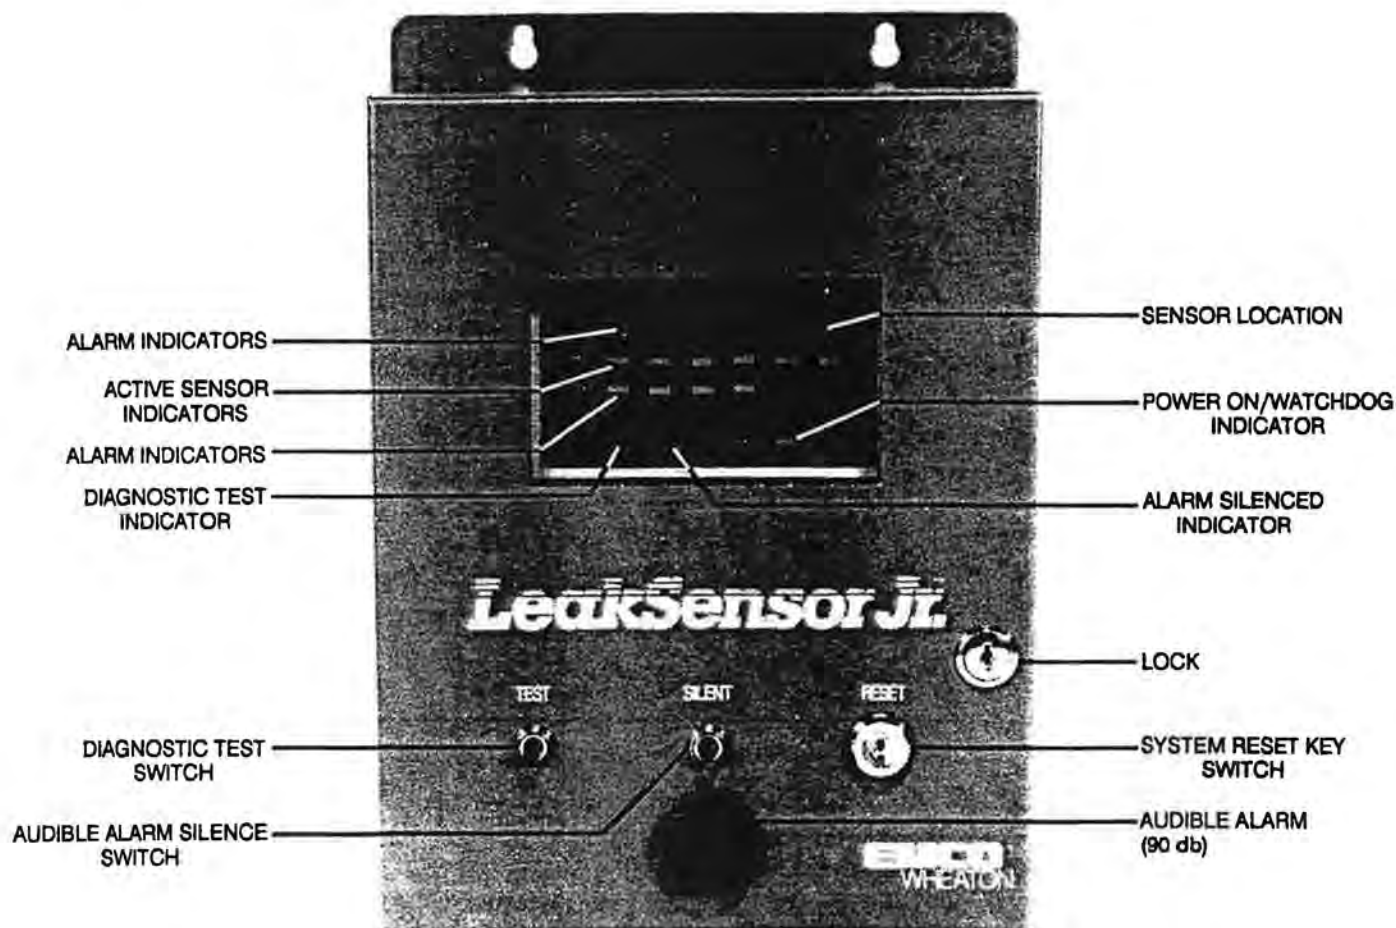

FIGURE 3: LEAK SENSOR JR. FRONT PANEL
2.4 INDICATOR PANEL (Refer to Figure 3)